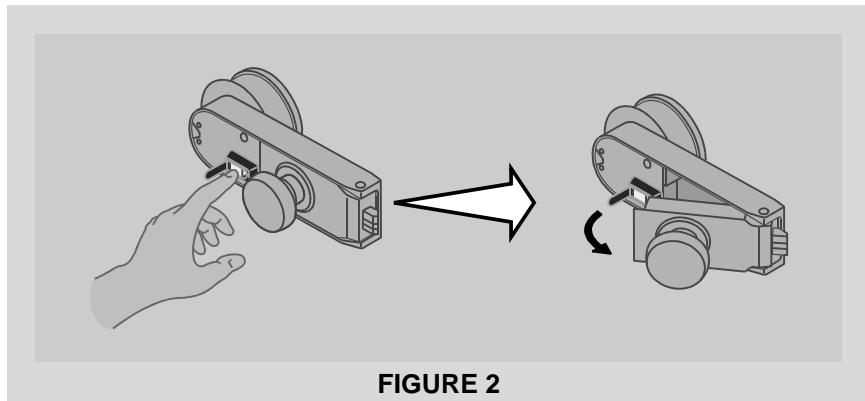

FIGURE 2
- If the door is jammed, it can be opened by pushing a manual release button, which is guarded by a red metal cover next to the door knob. This action allows the entire latch assembly to swing outwards, thereby releasing the latch bolt from the solenoid catch and enabling the door to open (See Figure 2).